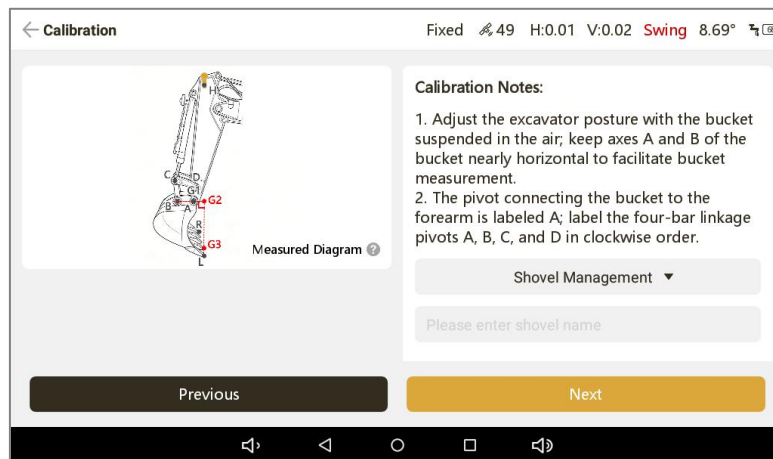
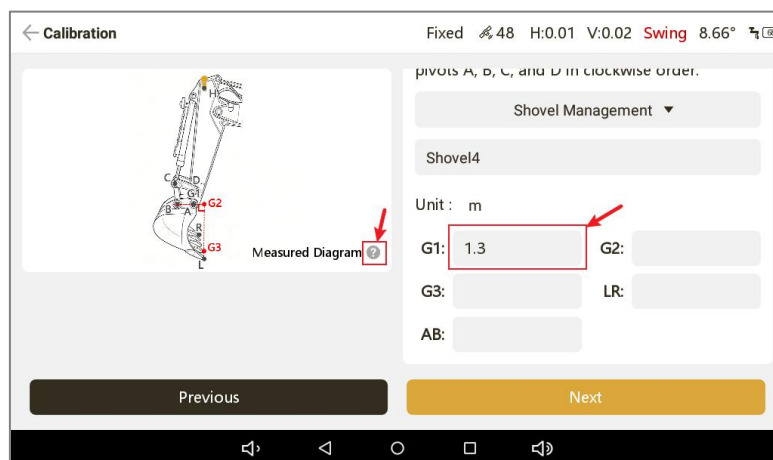

Figure 3-44
Figure 3-45
(5) Measure the bucket parameters.
- ① The bucket parameter interface is shown in Figure 3-44. When a specific parameter input field is selected, the corresponding 'Measured Diagram' will appear in the lower right corner of the schematic diagram. Tap the question mark icon on the right to view the measured diagram for that specific parameter, as shown in Figure 3-45.